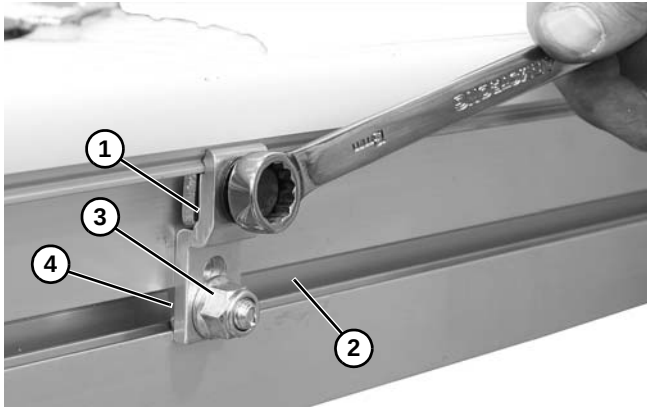

Figure 37
1. Install clip assembly (**Figure 37, item 1**) into side rail channel (**Figure 37, item 2**). The end clips should be no greater than 12" from the end of the conveyor.
*Make sure that the studs (**Figure 37, item 4**) rotate inside the channel and engage with the conveyor.*
2. Fasten clip (**Figure 37, item 1**) to conveyor with nut (**Figure 37, item 3**) on stud.